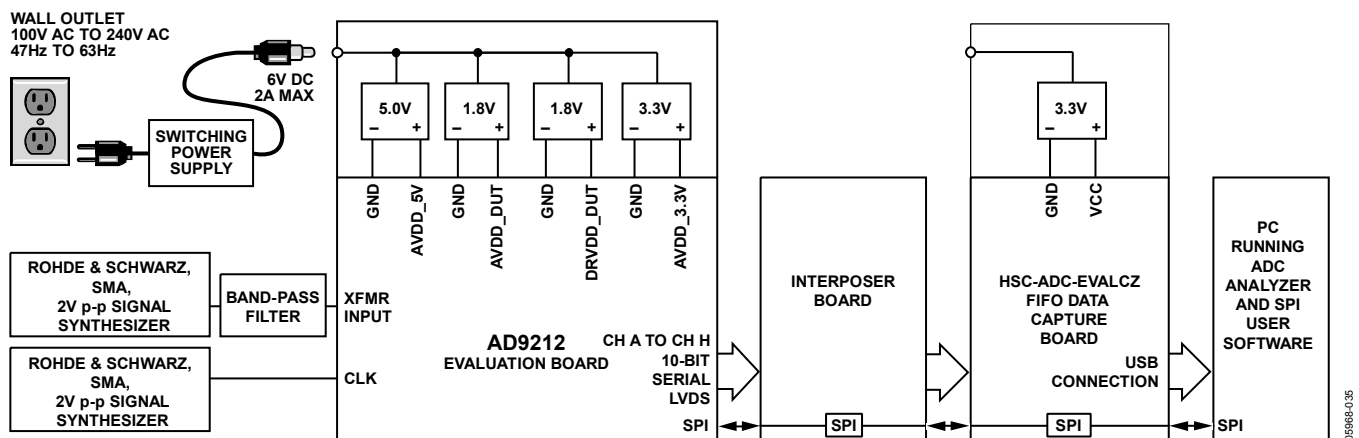
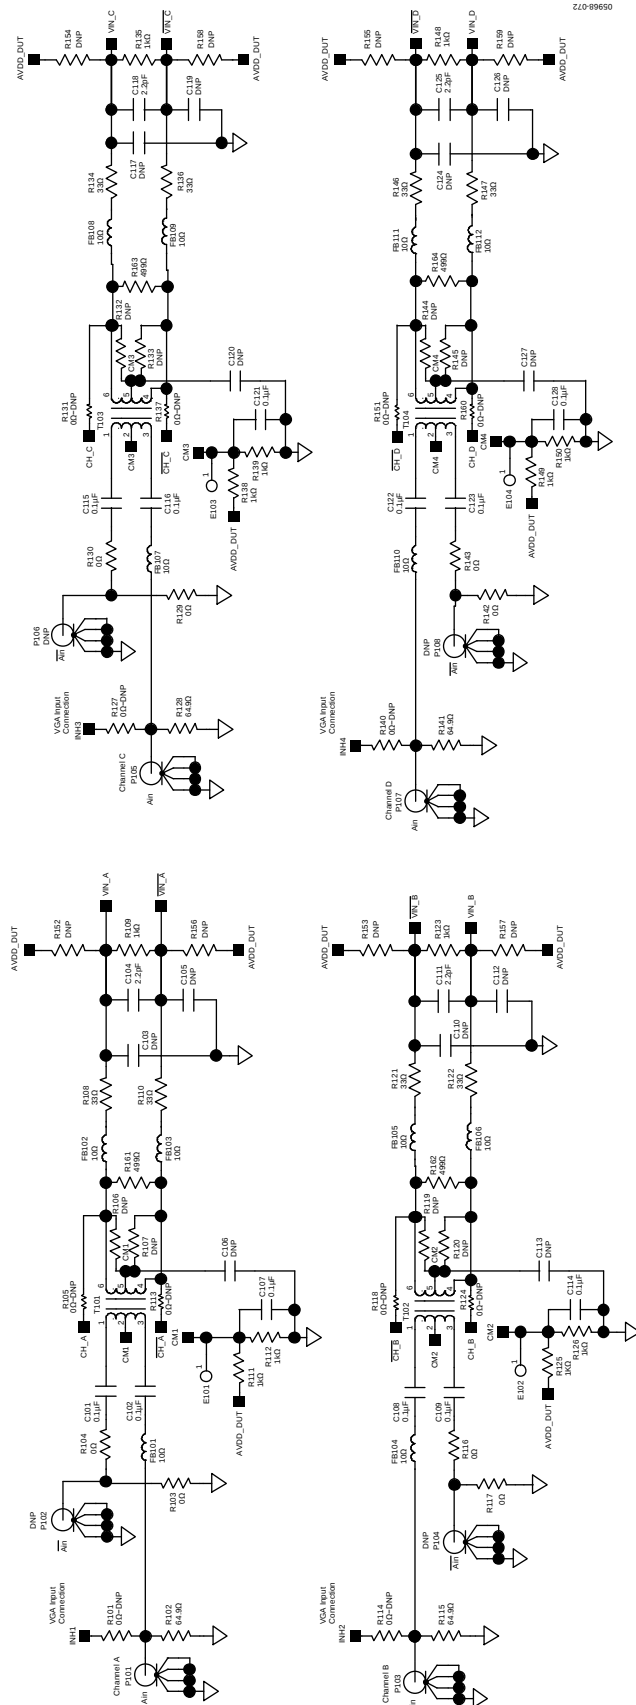
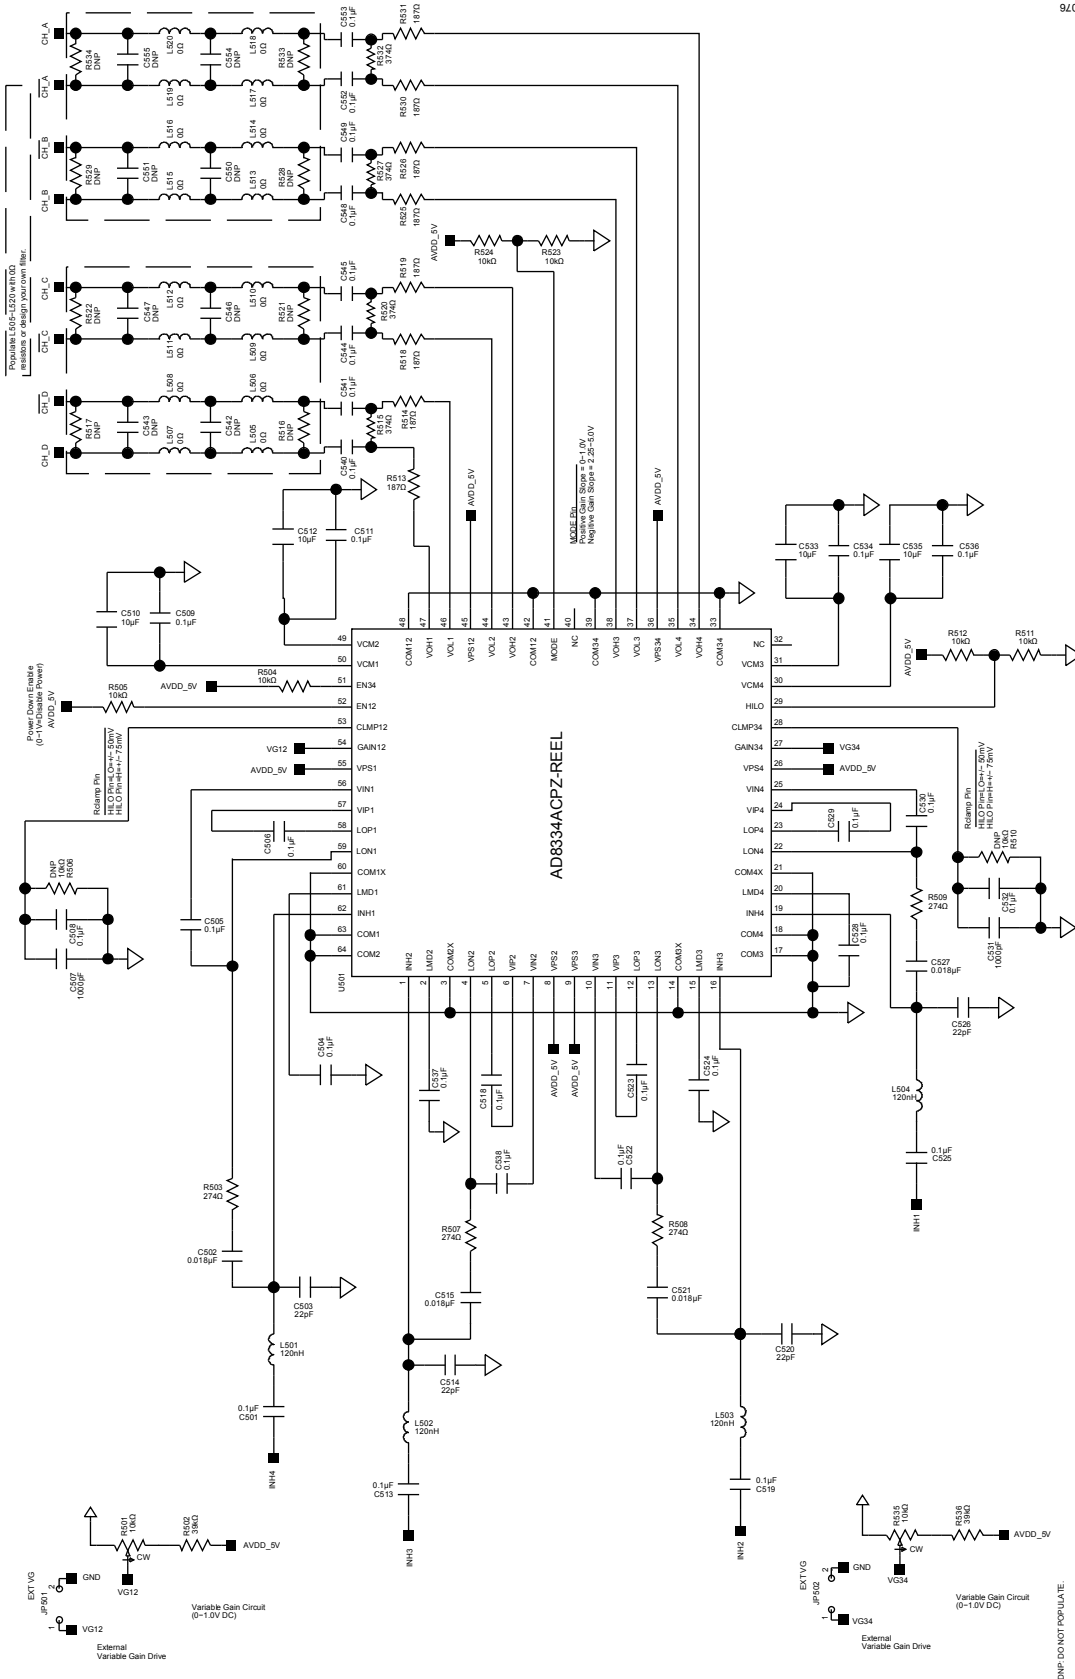
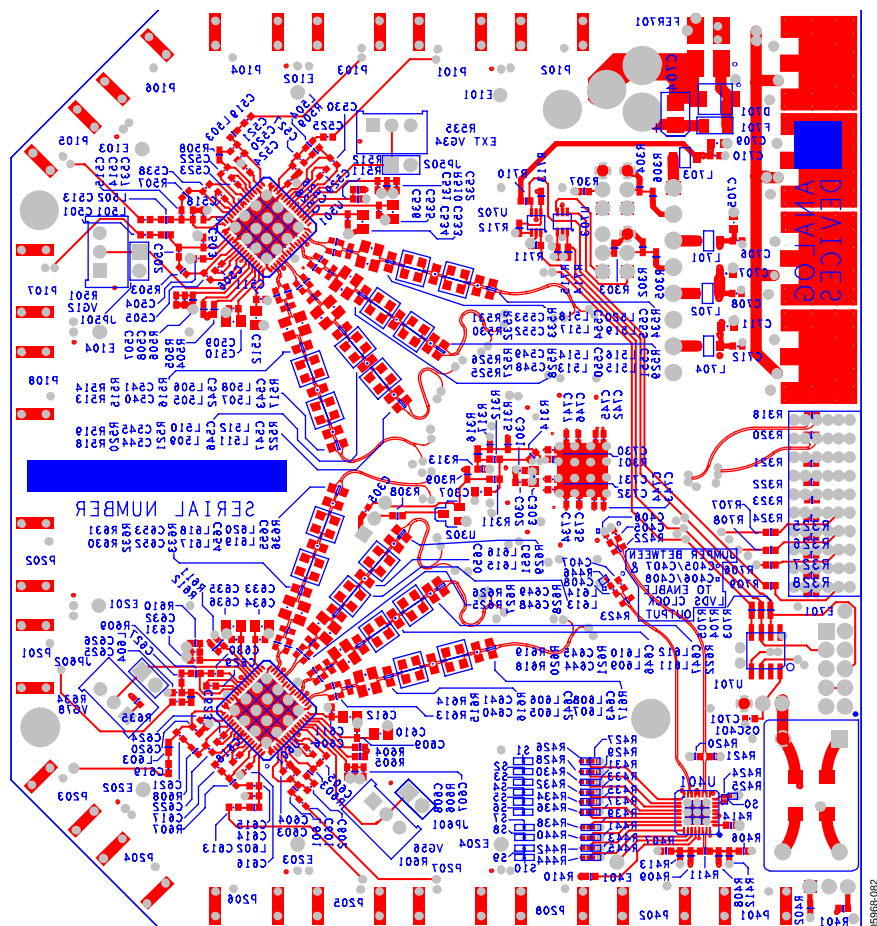

Figure 70. Evaluation Board Connection
Figure 74. Evaluation Board Schematic, DUT Analog Inputs
Figure 78. Evaluation Board Schematic, Optional DUT Analog Input Drive
Figure 84. Evaluation Board Layout, Secondary Side (Mirrored Image)
The AD9212 evaluation board provides all the support circuitry required to operate the ADC in its various modes and configurations. The converter can be driven differentially by using a transformer (default) or an AD8334 driver. The ADC can also be driven in a single-ended fashion. Separate power pins are provided to isolate the DUT from the drive circuitry of the AD8334. Each input configuration can be selected by changing the connections of various jumpers (see Figure 74 to Figure 78). Figure 70 shows the typical bench characterization setup used to evaluate the ac performance of the AD9212. It is critical that the signal sources used for the analog input and clock have very low phase noise (<1 ps rms jitter) to realize the optimum performance of the converter. Proper filtering of the analog input signal to remove harmonics and lower the integrated or broadband noise at the input is also necessary to achieve the specified noise performance.
See Figure 74 to Figure 84 for the complete schematics and layout diagrams demonstrating the routing and grounding techniques that must be applied at the system level.
- **D + x, D - x:** If an alternative data capture method to the setup shown in Figure 74 is used, optional receiver terminations, R318 and R320 to R328, can be installed next to the high speed backplane connector.